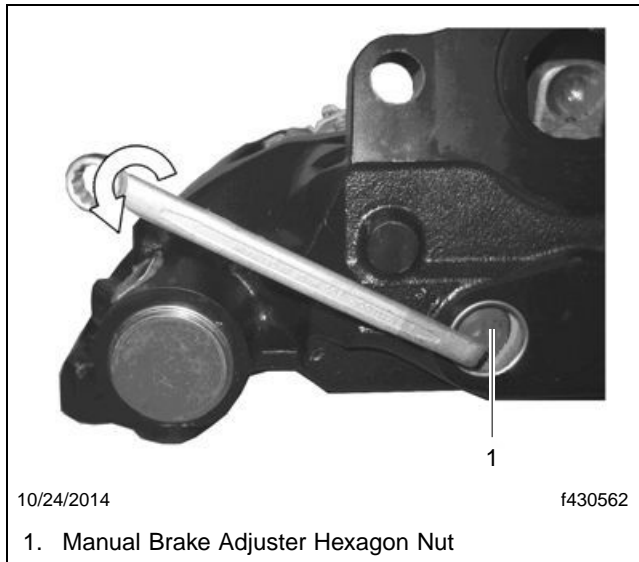
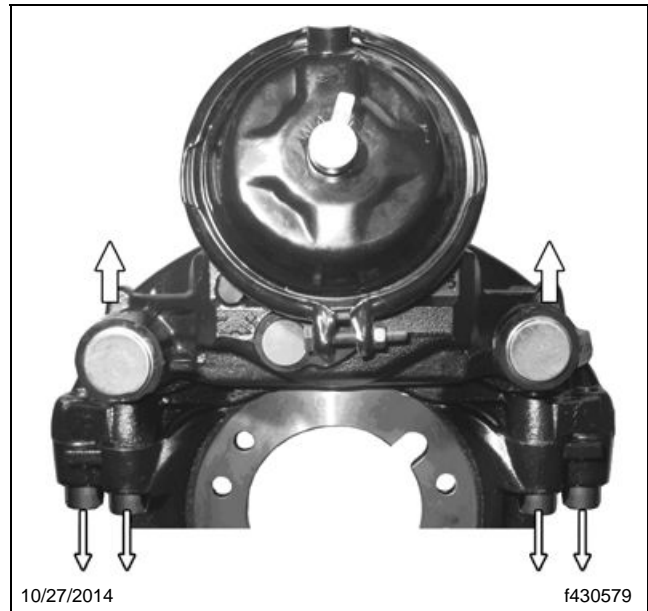
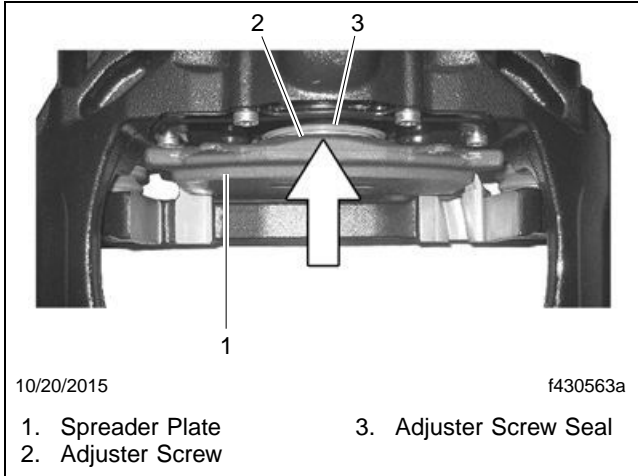

Fig. 2, Backing Off the Manual Brake Adjuster
Fig. 3, Removing the Brake Caliper Assembly
Fig. 6, Pushing the Spreader Plate
10. Back off the manual brake adjuster 1/4 turn and remove the brake caliper assembly. See **Fig. 2** and **Fig. 3**.
28. Back off the manual brake adjuster and push the spreader plate toward the brake chamber side of the caliper. See **Fig. 2**. Keeping the spreader plate engaged with the pin on the adjuster screw will ensure that the adjuster does not turn and possibly damage the seal. See **Fig. 6**.